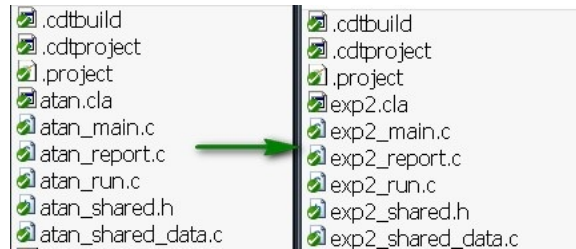

Figure 5.4: Creating a new project from existing examples
- Rename all files **atan*.*** to **exp2*.***. (Notice the naming convention. All files have the test folder name as a prefix, see Fig. 5.4 below)